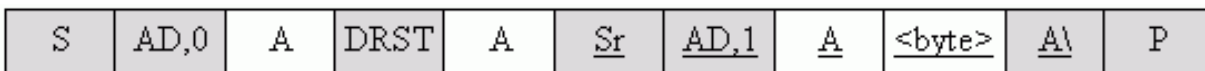

Figure 3. Device reset after power-up. This example includes an optional read access to verify the success of the command.
**Figure 3** is the Device Reset I2C communication example. Reset **Example 1** shows the DS2482 reset command, which performs a global reset of the device state-machine logic and terminates any ongoing 1-Wire communication. The command code for the device reset is 0xF0.